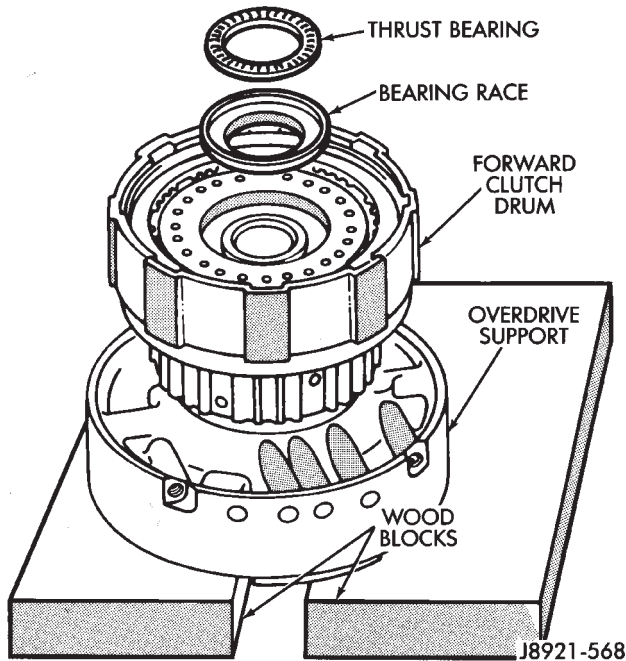
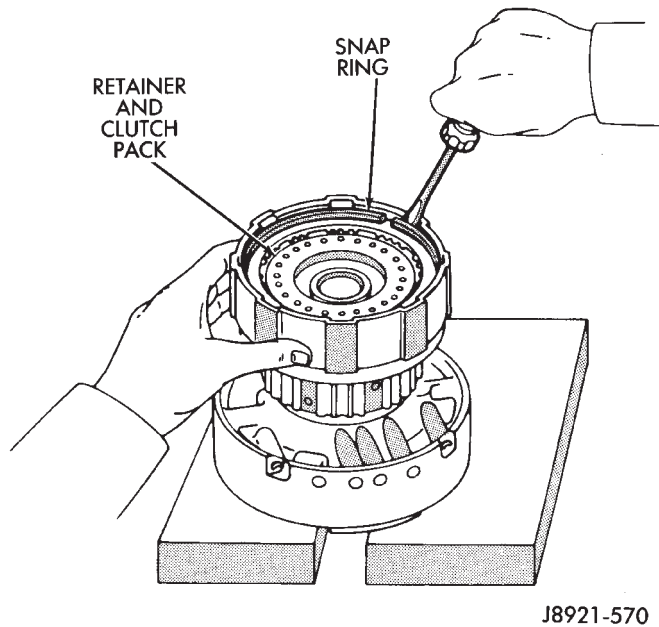

Fig. 241 Positioning Drum And Support On Wood Blocks
Fig. 242 Removing Retainer And Clutch Pack
- (1) Check clutch piston stroke as outlined in following steps.
- (2) Position overdrive support on wood blocks and mount forward clutch drum on support (Fig. 241).
- (3) Remove bearing and race from forward clutch drum (Fig. 241).
- (4) Install a suitable threaded bolt/rod into the side of the overdrive support.
- (5) Mount Miller Tool C-3339 dial indicator components onto the threaded rod as necessary.
- (6) Position dial indicator plunger squarely against clutch piston.
- (7) Apply compressed air through right side feed hole in support and note piston stroke length on dial indicator.
- (8) Stroke length should be 3.55 – 3.73 mm (0.1348 – 0.1469 in.).
- (9) Replace clutch discs if stroke length is incorrect.
- (10) Remove clutch pack snap ring and remove retainer and clutch pack (Fig. 242).